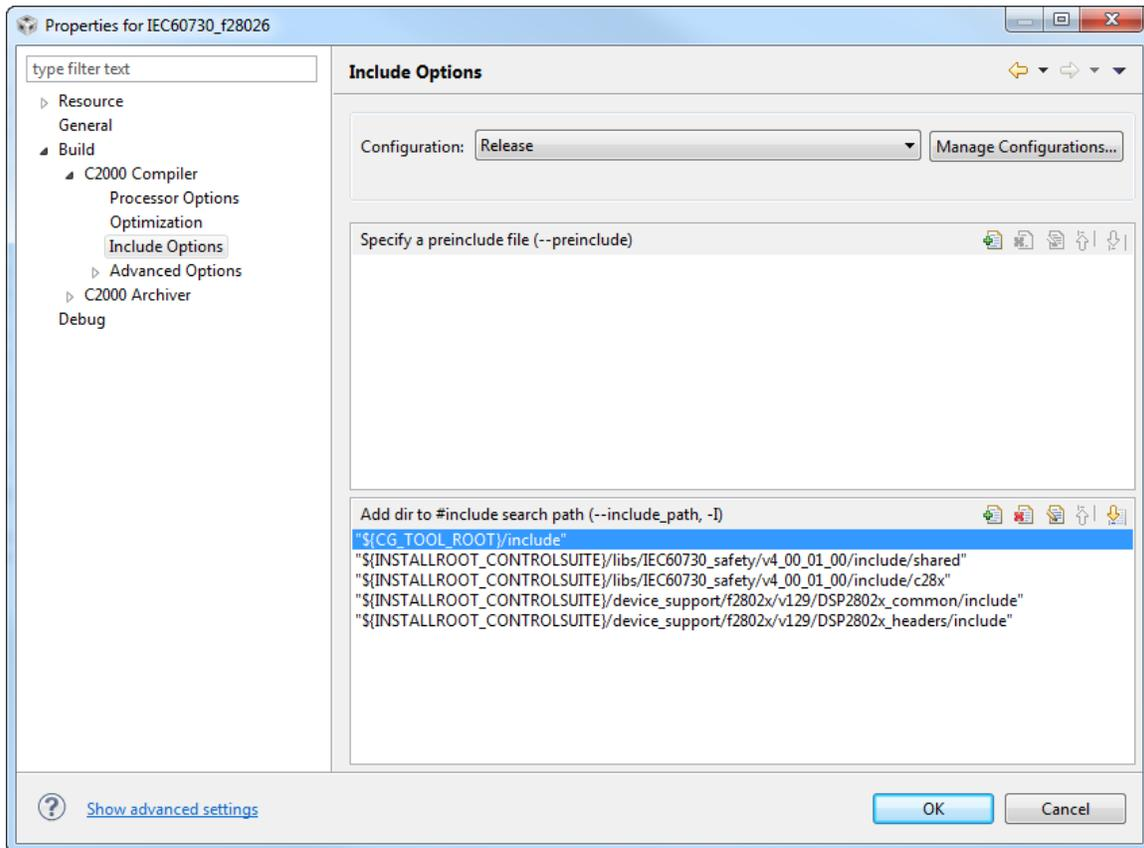

Figure G.2: Adding Header File Directory
7. Add the search path to the version header files required by the source files. Click on **Projects** menu > click on **Properties** > expand to **Build** > **C2000 Compiler** > **Include Options**. Add the following in the **Add dir to #include search path** window. See figure G.2. For example for this library build v129 of the header files and v4\_00\_01\_00 of the safety library was used.